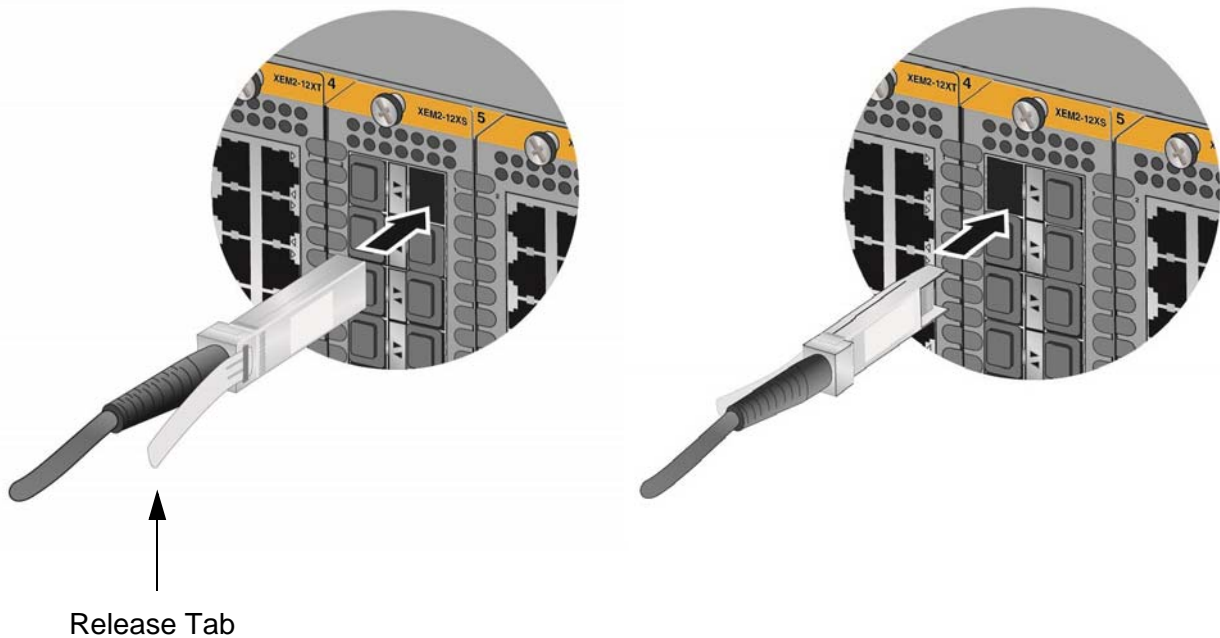

Figure 89. Installing AT-SP10TW Cables in the AT-XEM2-12XS Line Card
2. To install the transceiver in odd numbered slots, position the transceiver with the release tab on the right. To install the transceiver in even numbered slots, position the release tab on the left. Refer to Figure 89.